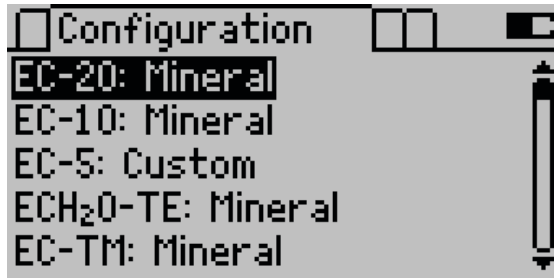

Figure 10 Selecting the sensor type
3. Select the sensor type (Figure 10).